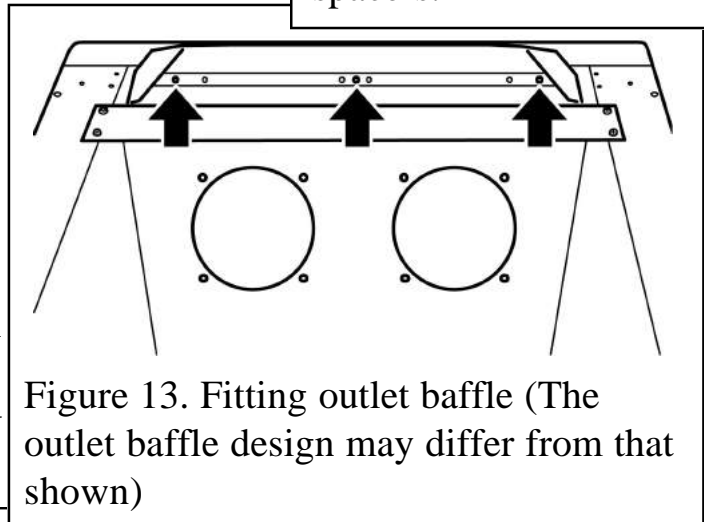

Figure 13. Fitting outlet baffle (The outlet baffle design may differ from that shown)
6. The ‘Adorn’, ‘Visage’, ‘Eternal’, ‘Decadent’, ‘Obsession’ and ‘Dream’ models have an outlet baffle supplied with the appliance fascia. Fit this to the convected air outlet of the appliance using the three self tapping screws supplied with the fascia (See figure 13).
The ‘Icon’ model has a heat baffle supplied with the appliance fascia. Fit this to the convected air outlet of the appliance using the three self tapping screws supplied with the fascia (See figure 13).